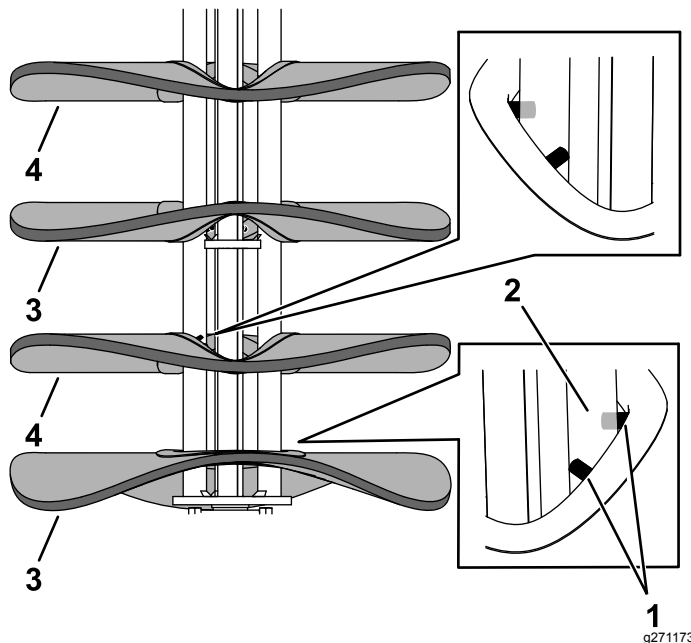

Figure 10
2. Stand the broom core on end. Starting with a polypropylene brush, install new brushes, ensuring the prongs straddle the rods of the core (Figure 10). Alternate between polypropylene and wire brushes, with each consecutive brush 180° apart.